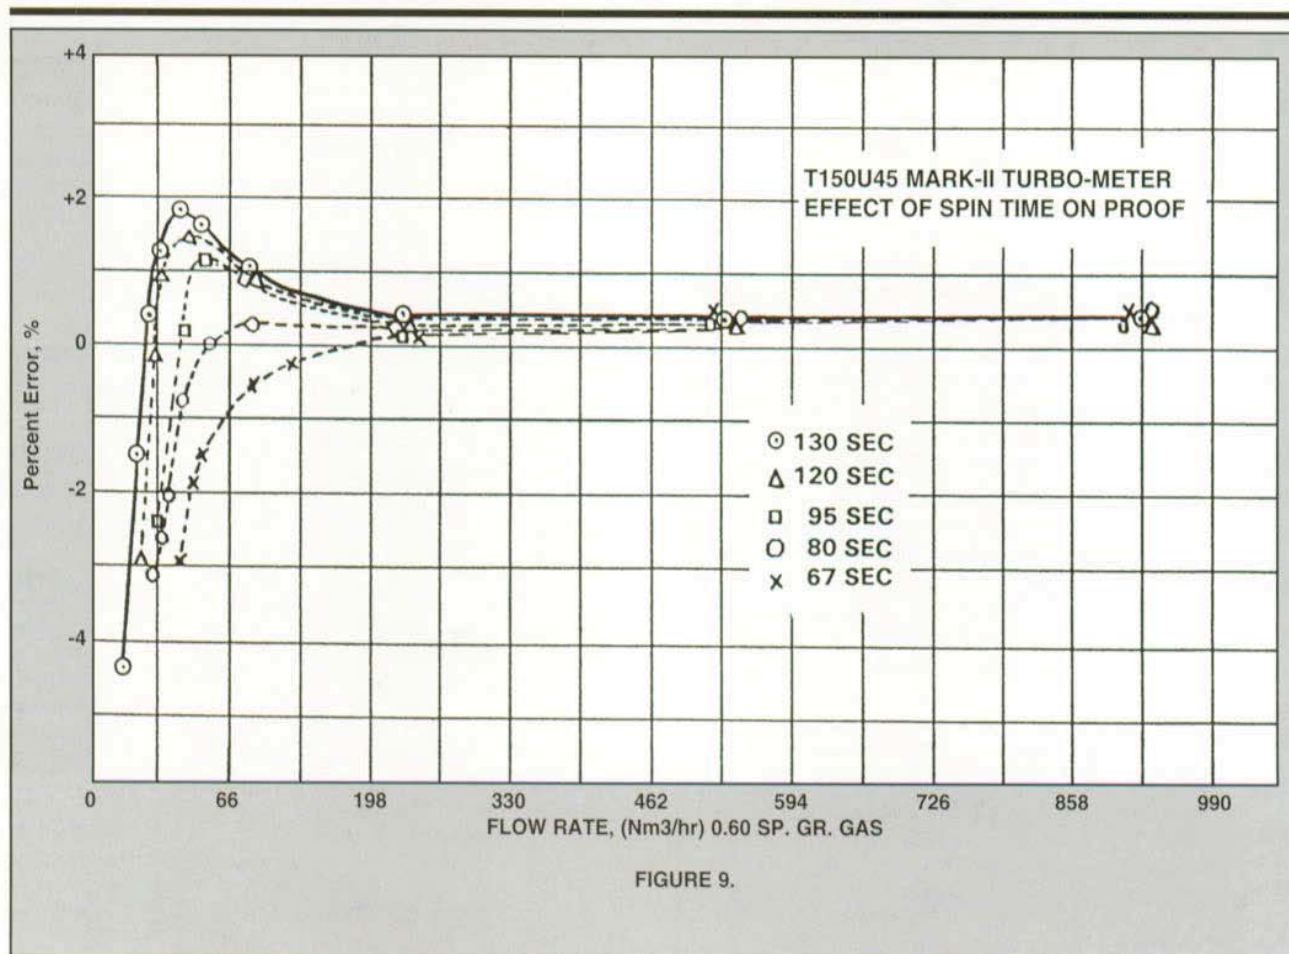

FIGURE 9.
- 8 While shielding the mechanism from extraneous air currents, conduct a "Spin Test" of the mechanism using the following procedure. See figure 9 for an example of the effect of spin time on proof.